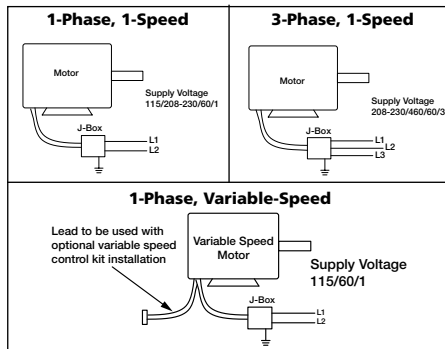

Figure 7 — Typical Wiring Diagram Operation
- Mount and wire safety disconnect switch under ventilator cover and wire motor per connection wiring diagram. See Electrical Connection, Figure 7, page 6. Wire control switches at ground level.
switches at ground level. Refer to Electrical Connection, Figure 7.
NOTE: Refer to Figure 7 for connection wiring diagram.